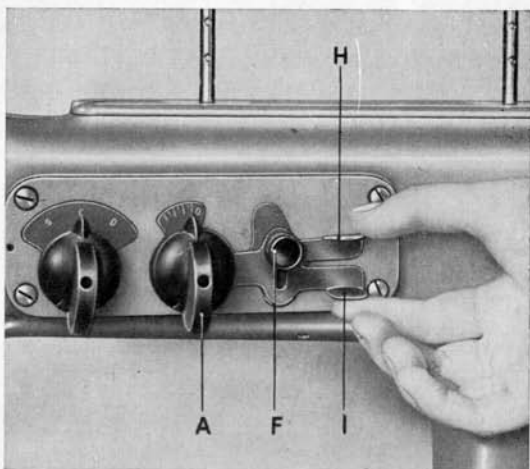

Fig. 17
- 3) Holding index stop levers between thumb and forefinger (fig. 17), move knob « A » until it reaches the desired stitch width, then secure knob « F ».